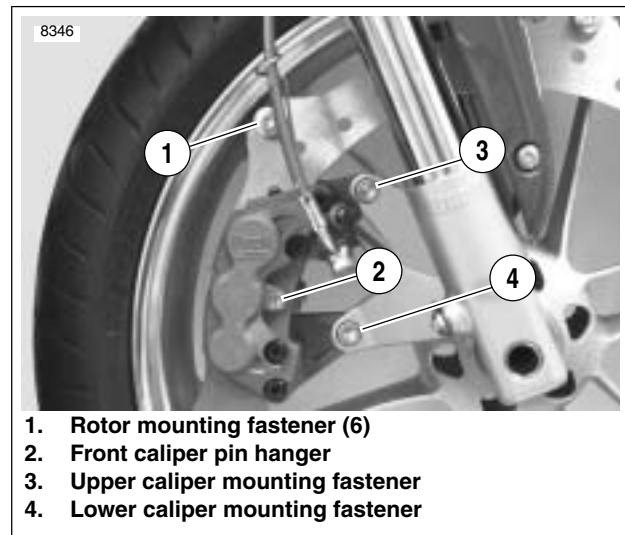

Figure 1-15. Front Brake Caliper
1. See Figure 1-15. Loosen pin (2) but do not remove.
2. Rotate wheels so that caliper is centered between rotor mounting fasteners (1).
3. Remove lower caliper mounting fastener (4) that secures caliper to fork lower.
4. Loosen but do not remove upper caliper mounting fastener (3) that secures caliper to fork lower.
5. Remove pin (2).
4. See Figure 1-15. Install pin (2) making sure it engages hole on both pads and spring clip.
6. See Figure 1-15. Install lower caliper mounting fastener (4).
8. Tighten pin (2) to 11-14 ft-lbs (15-19 Nm).